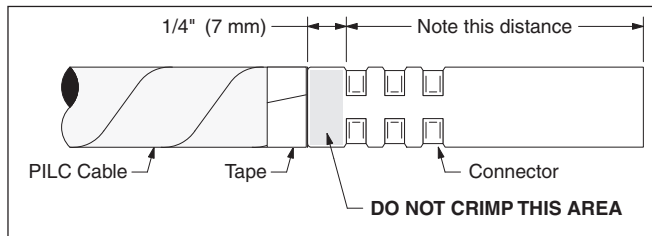

Figure 4
(Figure 4).
- 3.4 Measure and note the distance from open connector end to uncrimped area adjacent to papers (Figure 4).